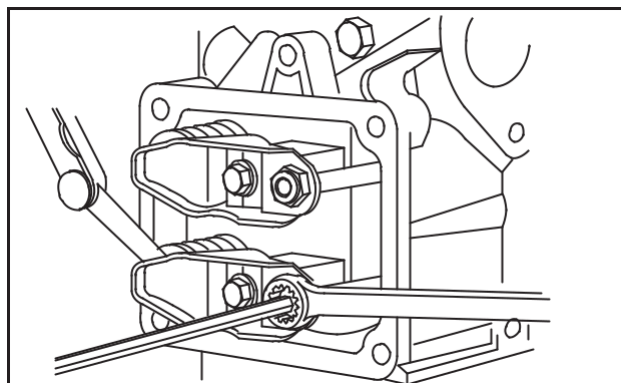

Fig. 25 – Adjust Valve Clearances
- a. Adjust valves and check, Fig. 25.